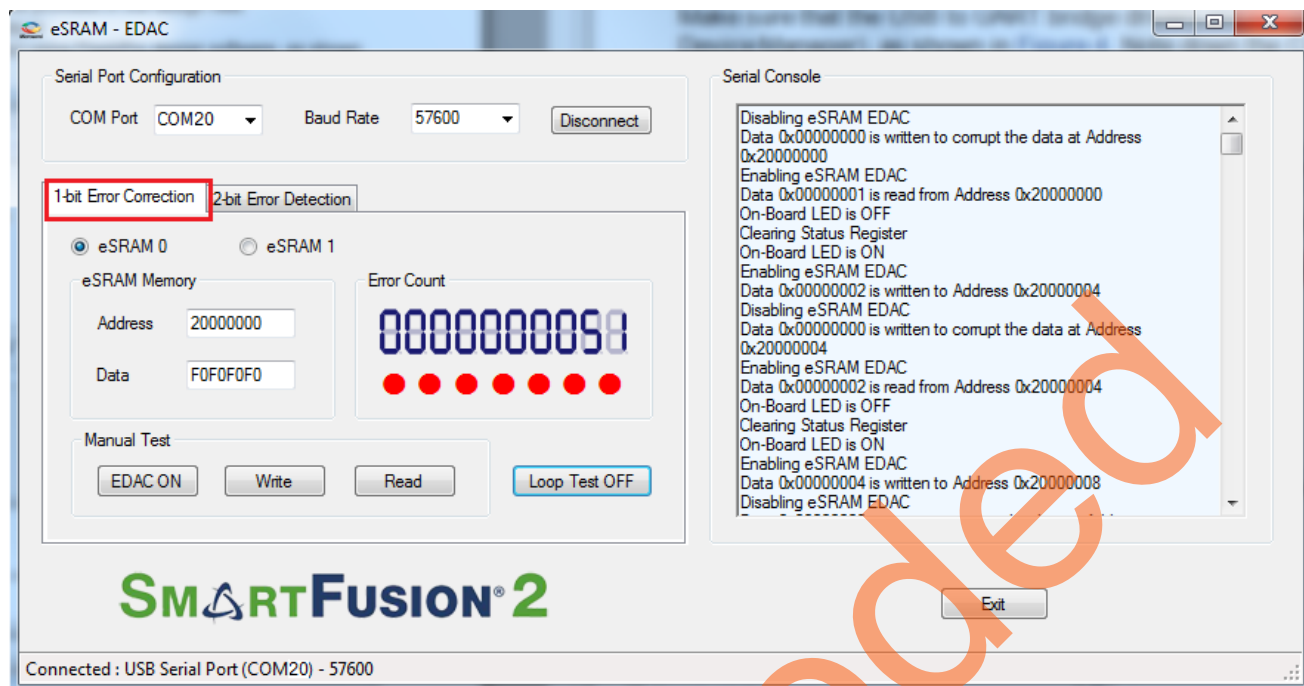
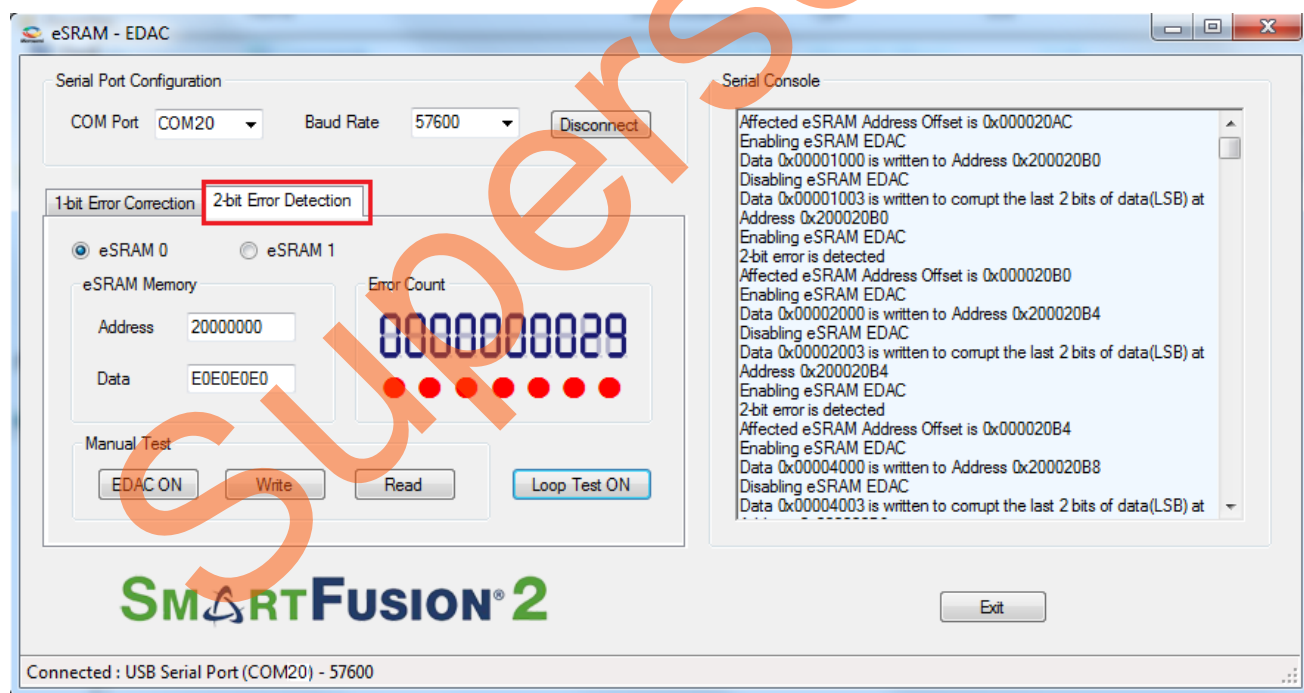

Figure 7. 1-Bit Error Correction Tab
Figure 8. 2-Bit Error Detection Tab
8. Select the 1-bit **Error Correction** tab or 2-bit **Error Detection** tab, as shown in Figure 7 and Figure 8.